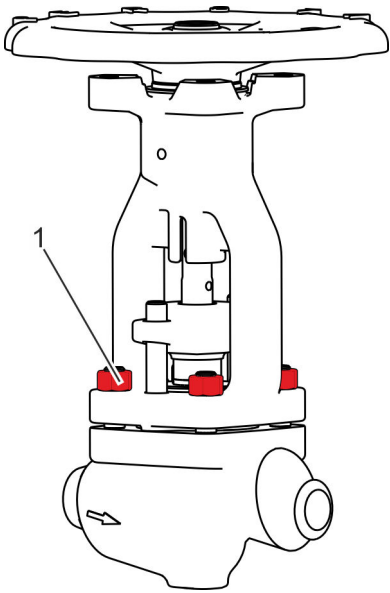

Fig. 42: Remove the nuts on the bonnet
13. Loosen and remove the nuts (Fig. 42/1) on the bonnet.